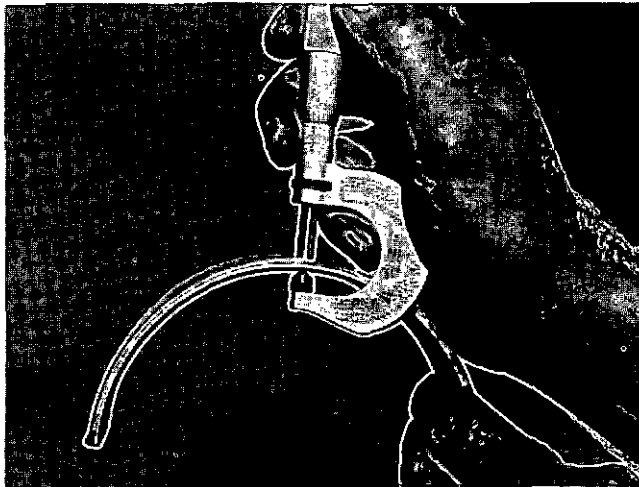

Fig. 1-5-1, V40112. Gauging bearing shell
1. Gauge shell with ball point micrometer, dial indicator thickness gauge, or comparator, Fig. 1-5-1.